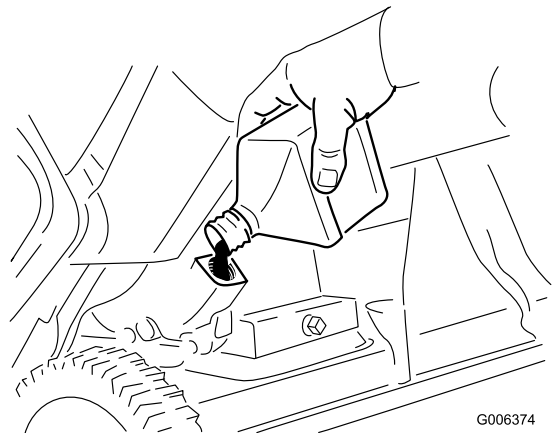

Figure 32
8. With the machine in the operating position, **carefully** pour oil into the oil-fill hole to the point of overflow (Figure 32).